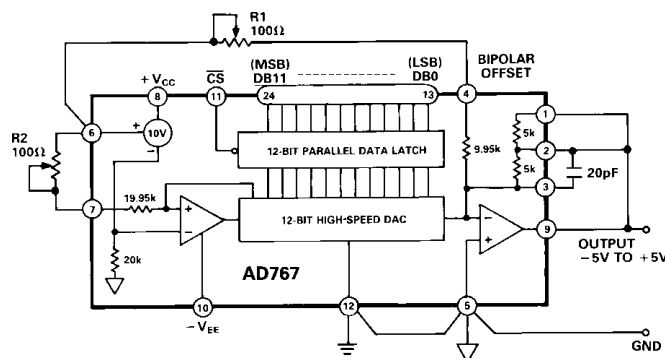

Figure 3.  $\pm 5$  V Bipolar Voltage Output
**BIPOLAR CONFIGURATION (Figure 3)**